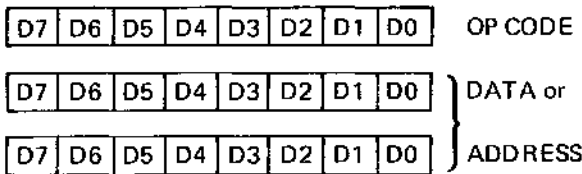

Figure 2-4. MPU Instruction Format
2.2.2.3.1 Instruction Cycle. An instruction cycle includes both the fetching of the instruction from memory and the execution of the instruction. Each instruction can be either one, two, or three 8-bit bytes in length. Multiple byte instructions must be stored in successive memory locations. Figure 2-4 illustrates the three instruction formats. The actual bit configuration of the op code is not important to the understanding of the terminal processor operation.